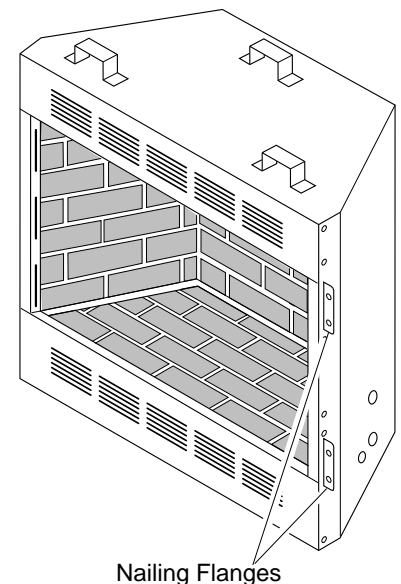

Figure 11 - Location of Nailing Flanges (Two on Each Side)
- Break off nailing flanges with hammer or pliers (see Figure 11).